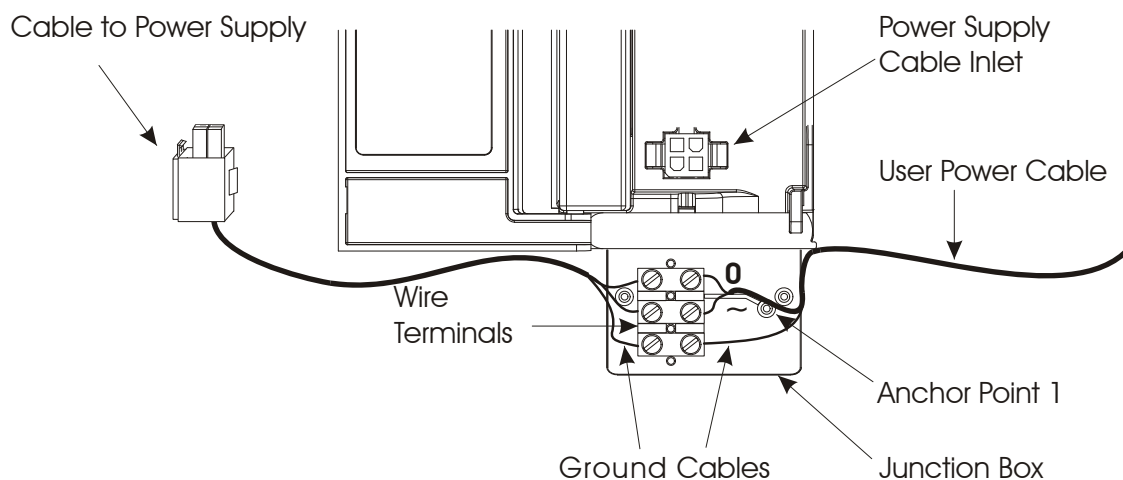

Figure 2-20 RTU Power and Ground Connections - No I/O Frame Installation
- 3) Attach the wires of the user cable, according to the labels (~0 for AC and +/- for DC.) For the No I/O Frame, connect the ground cable to the lower wire terminals (third pair). See Figure 2-20 and Figure 2-21.
- 5) Attach the wires of the user cable, according to labels (~0 for AC and +/- for DC.) See Figure 2-20 and Figure 2-21. For the No I/O frame, connect the ground cable to the lower wire terminals (third pair).